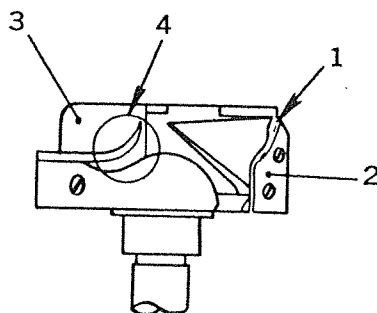

Fig. 26
The rotating hooks for models 327R-1 and 327RB-1 have been developed specifically for these machines and are provided with specific clearances (1)—Fig. 26—to allow the most effective transit of the sewing thread. Furthermore, the hook for model 327RB-1 with its larger bobbin provides for much increased thread volume.